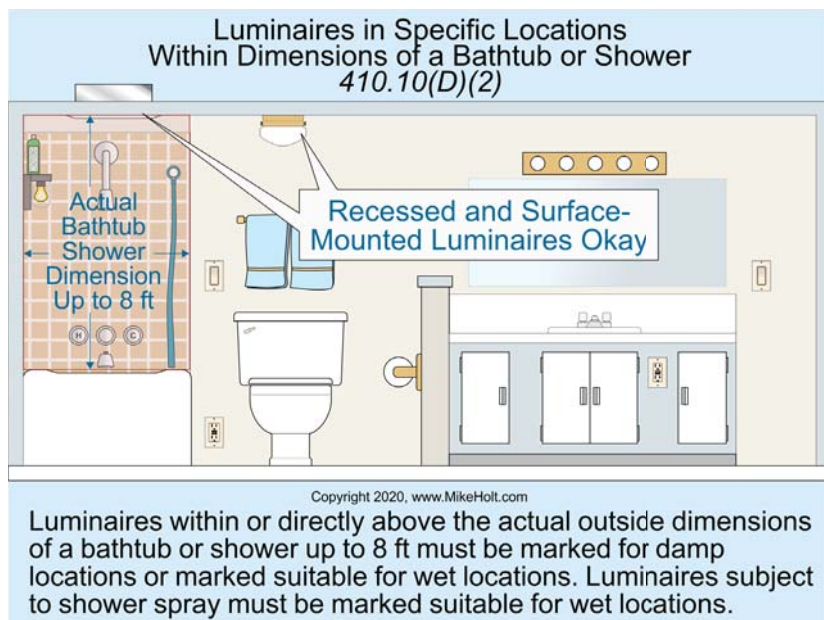

Fig. 2. Rules for luminaires directly above the outside dimensions of a bathtub or shower.
(2) Luminaires located within the actual outside dimensions of a bathtub or shower to a height of 8 ft from the top of the bathtub rim or shower threshold must be marked for damp locations or marked suitable for wet locations. Where subject to shower spray, the luminaires must be marked suitable for wet locations (Fig. 2).